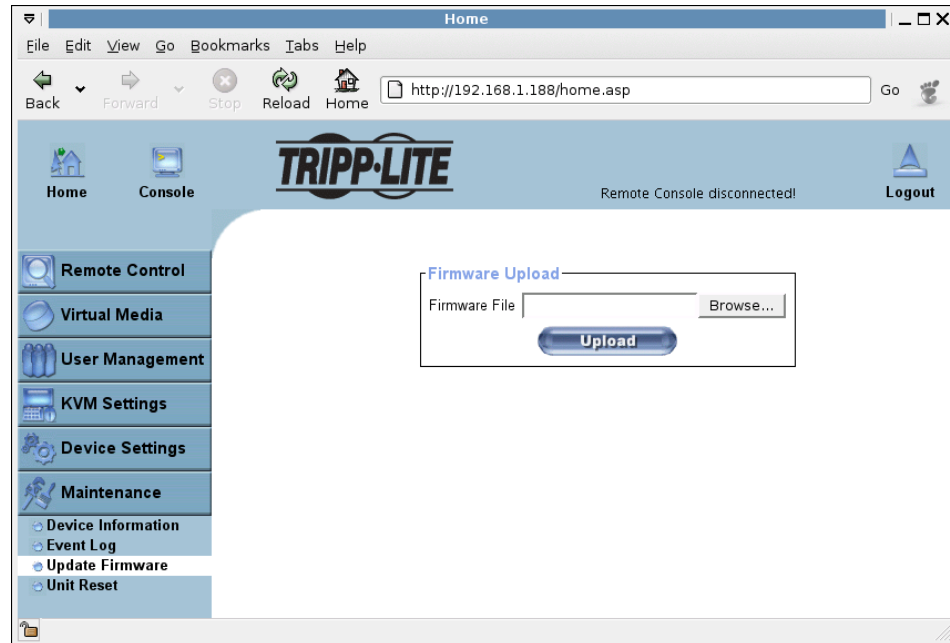

Figure 6-39. Update Firmware
- Firstly, the new firmware file is uploaded onto the B050-000. In order to do that you need to select the file on your local system using the button “Browse” of the Upload Firmware panel (see Figure 6-39). Then, click “Upload” to transfer the previously selected file from your local file system onto the B050-000. Once the firmware file has been uploaded, it is checked whether it is a valid firmware file and whether there were any transmission errors. In case of any error the Upload Firmware function will be aborted and the current firmware is kept as is.